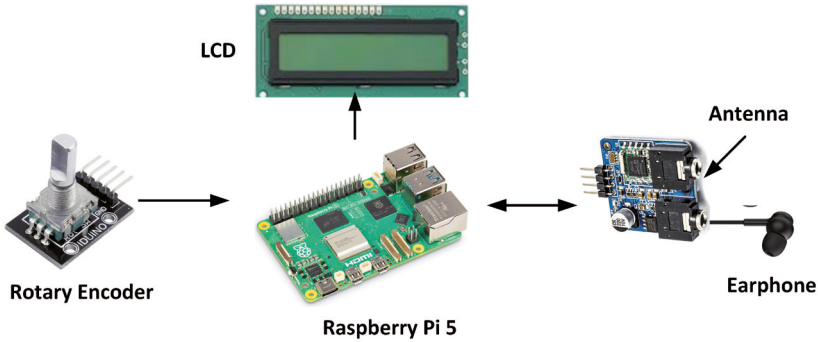

Figure 4.81: Block diagram of the project.
**Block diagram:** Figure 4.81 shows the block diagram of the project. The frequency settings are displayed on the LCD as the rotary encoder is turned.